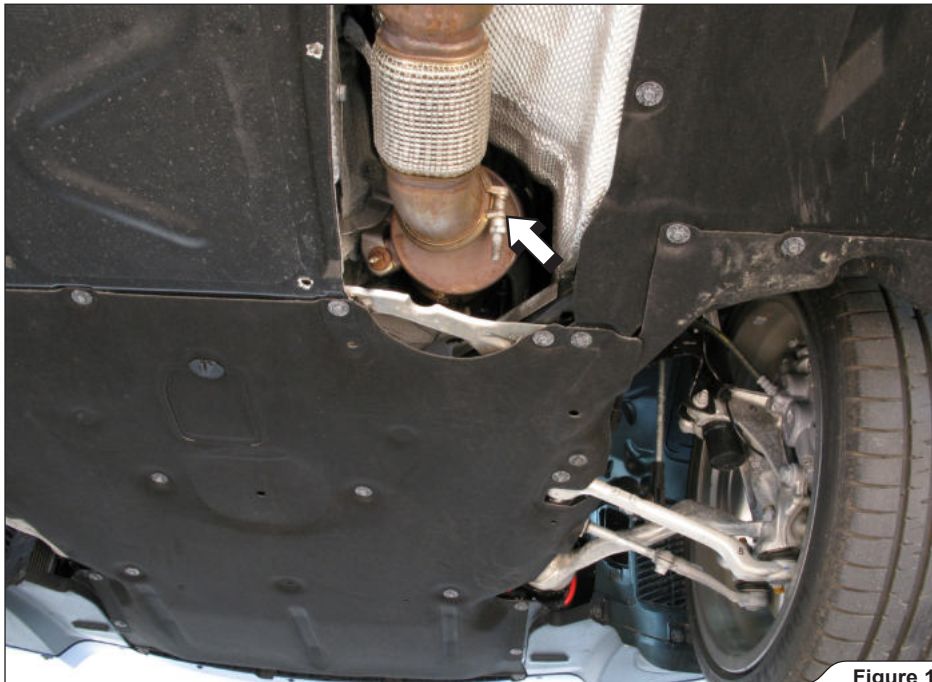

Figure 1
1. Unscrew the marked clamp and remove it off the joint (Figure 1).